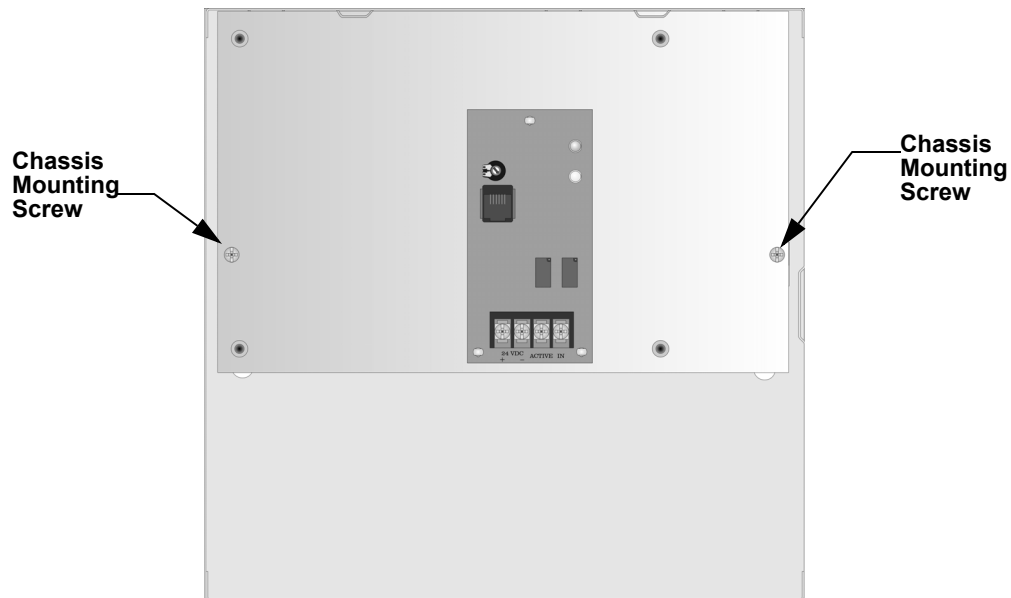

Figure 7-2 Remote Microphone Chassis Assembly
5. Remove the remote microphone chassis assembly by un-screwing the two chassis assembly screws. See Figure 7-2.